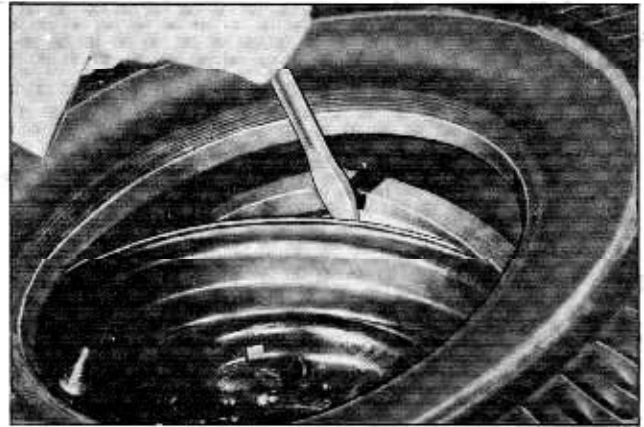

Fig. 5-34 Mounting Tire
3. Carefully mount inner bead in usual manner. If tire irons are used, take small "bites" around rim being careful not to injure the tire head. (Fig. 5-34)